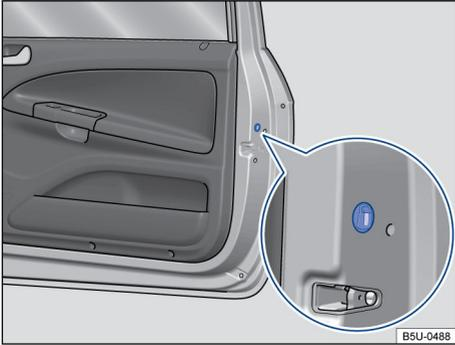

Fig. 44 Front part of the right-hand door: emergency vehicle locking, covered by a rubber seal.
- Remove the rubber seal at the side of the door. The seal may be identified via the image of a padlock 🔒 → Fig. 44.